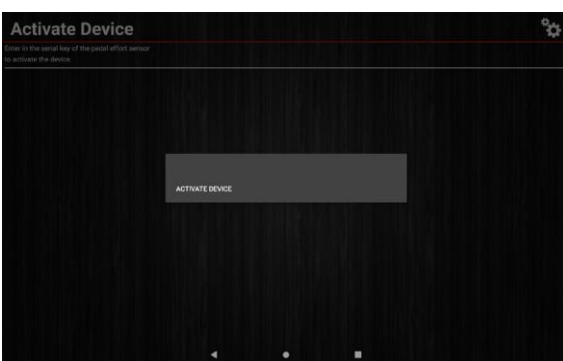

Figure 62
4. Click Activate Device (Figure 62).